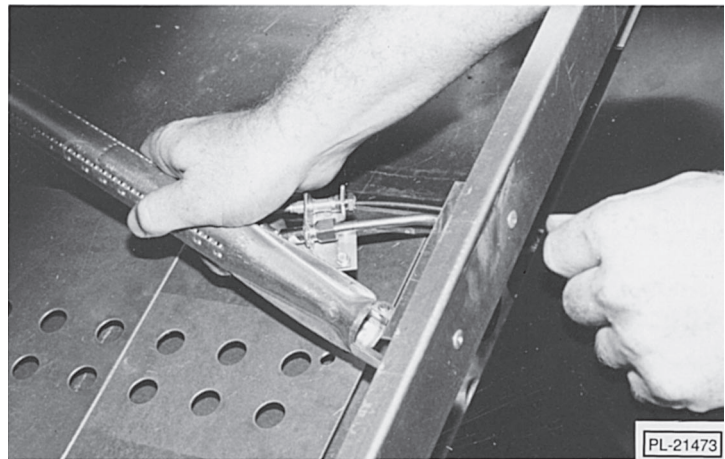

Fig. 43
4. Feed thermocouple assembly through front burner box (Fig. 43).
4. Tilt burner upward and slide burner away from burner nozzle (see Fig. 43).